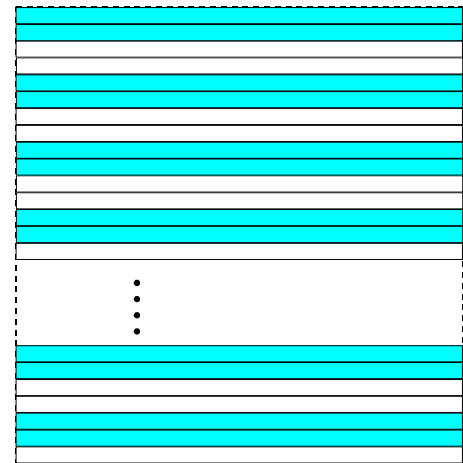

Fig. 112: Decimation of 2 (Color Cameras)
- 2 for color cameras: only every second pair of rows of the acquired frame will be transmitted out of the camera (Figure 112).